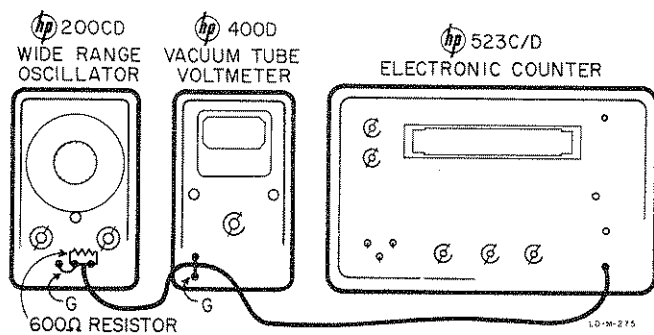

Figure 5-4. Calibration Test Setup
b. Connect the Model 200CD to an ac voltmeter and a frequency measuring device (counter or frequency standard) as shown in figure 5-4.
a. Switch Model 200CD RANGE to X100. Connect the equipment as shown in figures 5-4 and 5-5.
- a. Connect the Model 200CD to an ac voltmeter and an electronic counter as shown in figure 5-4. Substitute an ac transistor voltmeter for the ac electronic voltmeter in figure 5-4.